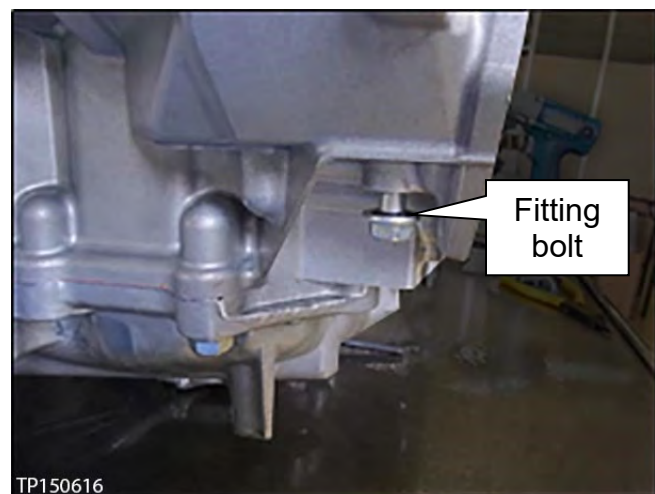

Figure 70
5. Install the oil pump fitting bolt finger tight (see Figure 70).
6. Torque the three (3) Allen™ head bolts and fitting bolt.